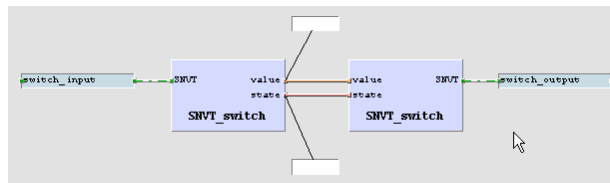

Figure 40: Online Test fields
13. Place the fields above and below the drawing as shown in Figure 40, then press the **Save** button to save your changes.